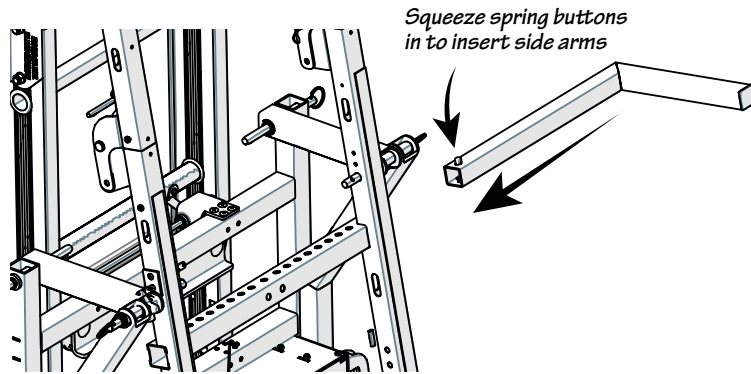

Fig. 2-2
- Using the spring button located on the end of the side arm, slide the side arm into the side of the solar panel frame. Adjust to desired position. See Fig. 2-2. Repeat on the opposite side.